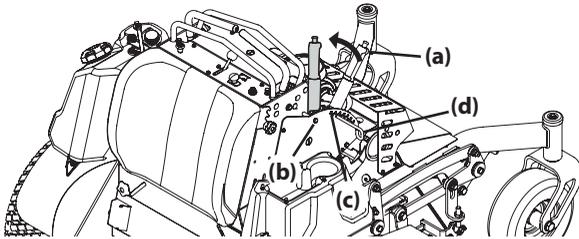

Figure 1
2. Use the deck lift handle (a) to raise the deck to the transport lock position (b) (highest adjustment setting) and insert the clevis pin (c) into the highest mowing setting (d) to secure the deck lift handle in place (Figure 1).